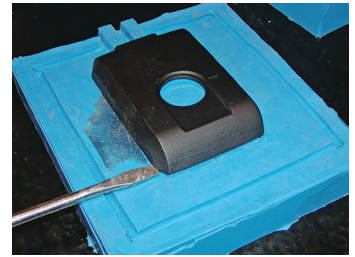

Figure 6: After curing, extract part.
2.1.4. Extract cast parts and finish as desired (Figures 6 and 7).